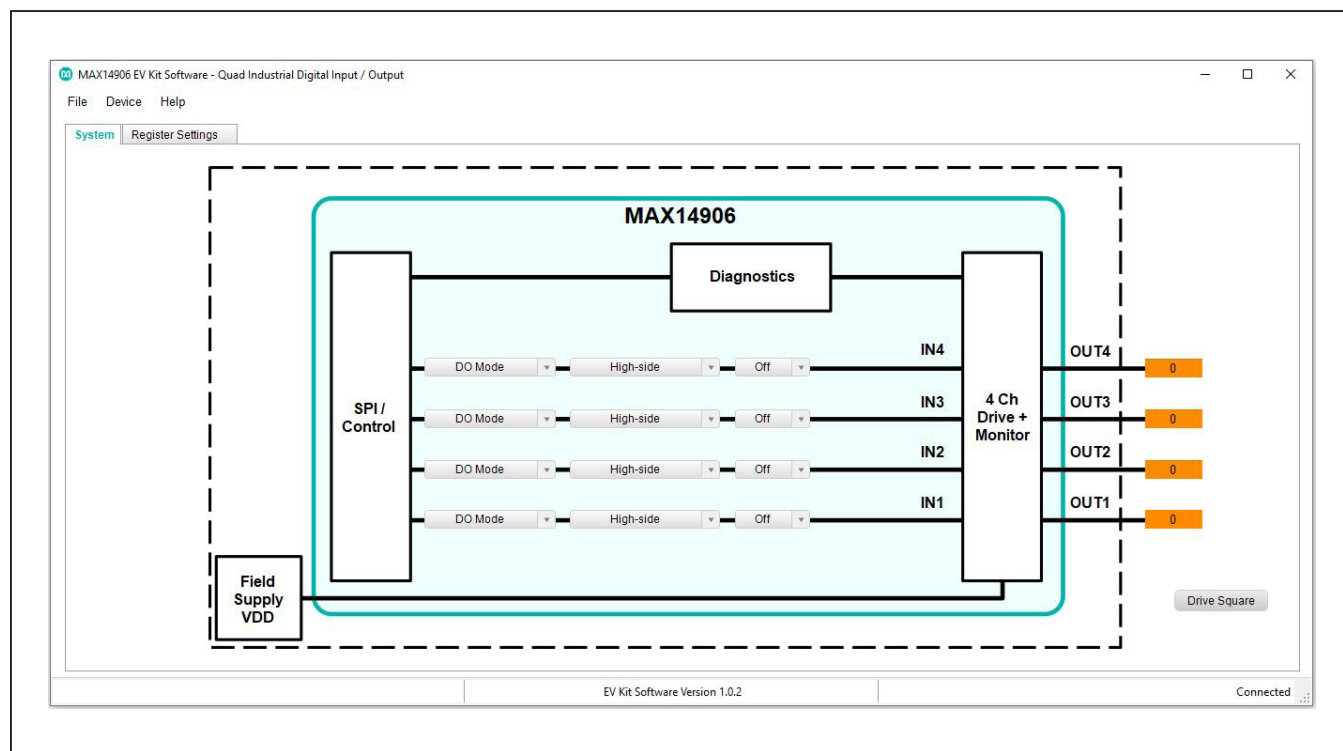

Figure 1. MAX14906 EV Kit GUI System Tab
- 9) Start the EV kit software by opening its icon in the Windows **Start | Programs | Maxim Integrated** menu. The EV kit software appears as shown in Figure 1. Verify that the lower-right status bar indicates the EV kit hardware is **Connected**. The GUI automatically detects that the EV kit is connected to the PC and enables serial communication. Any configuration change can be made on the **Register Settings** tab.